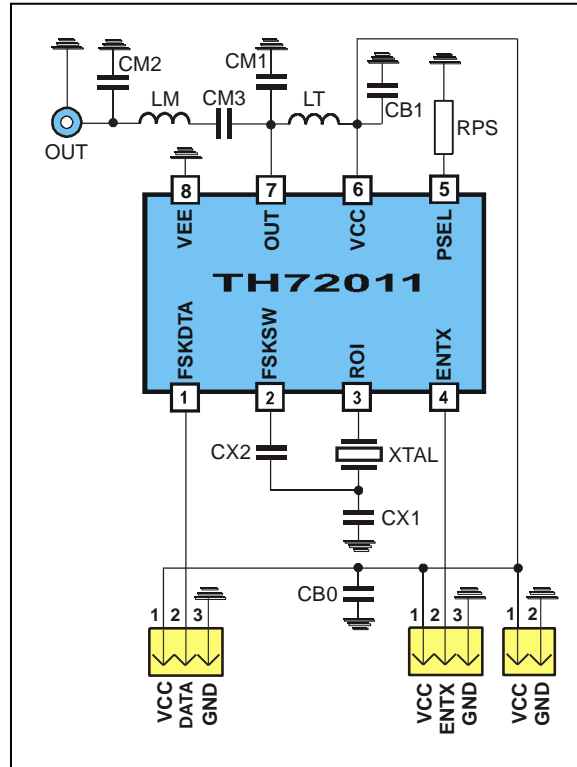

Fig. 18: Test circuit for FSK with 50  $\Omega$  matching network
typical values at  $T_A = 23\text{ }^\circ\text{C}$  and  $V_{CC} = 3\text{ V}$ ; test circuit shown in Fig. 18,  $f_c = 433.92\text{ MHz}$
- Data according to test circuit in Fig. 18
### 6.1. Test circuit component list to Fig. 18